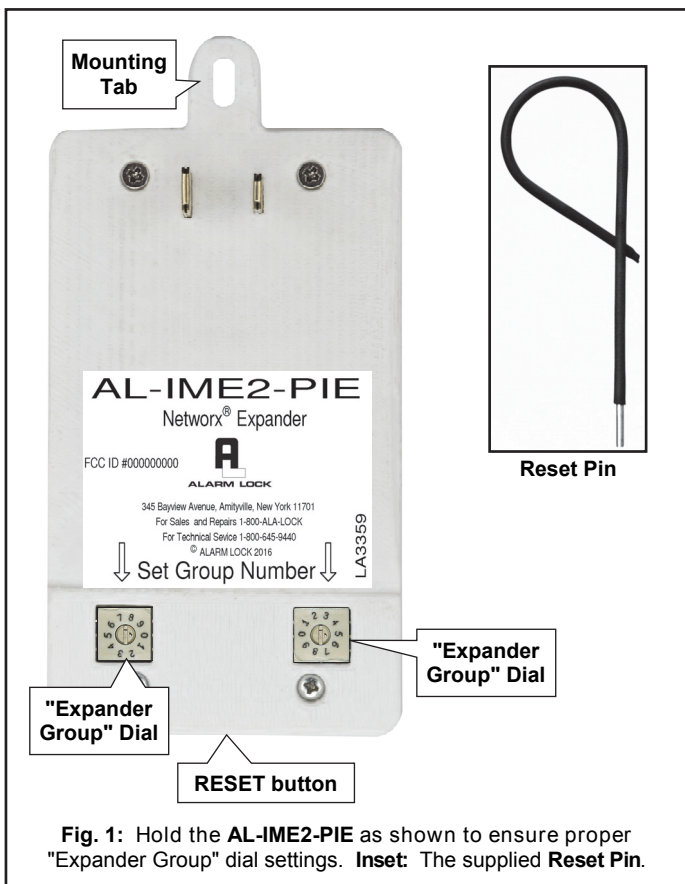

Fig. 1: Hold the **AL-IME2-PIE** as shown to ensure proper "Expander Group" dial settings. Inset: The supplied **Reset Pin**.
- (Optional) Use the **Mounting Tab** (see Fig. 1) to prevent unauthorized access to the **AL-IME2-PIE** by securing the unit to the wall outlet (replace the existing center outlet cover screw with the supplied screw)
On the inside surface of the Expander are two rotary "Expander Group" dials. When the **AL-IME2-PIE** is held in your hand in the orientation shown in Fig. 1, use these dials to set the "Expander Group" value ("00" through "99" are valid selections). All version 2 Gateways include an identical set of dials. *The dial value set on your Gateway MUST match the dial value set on your AL-IME2-PIE.*
be set to a different "Expander Group" value (along with its associated Expanders). The "Expander Group" value determines which Expanders are associated with each Gateway, thus preventing Gateways from discovering unintended Expanders. **Note:** The small "selection arrow" on each dial must be pointing directly to the desired value. Hold the **AL-IME2-PIE** with the label "up" as shown in Fig. 1.
IMPORTANT: ALWAYS reset the Expander memory, even if the Expander is new "out of the box" and/or has never been used previously. The **RESET** button described below can be accessed through a small hole in the unit (location shown in Fig. 1). To depress the **RESET** button, simply insert supplied **Reset Pin** into the hole. Proceed as follows: